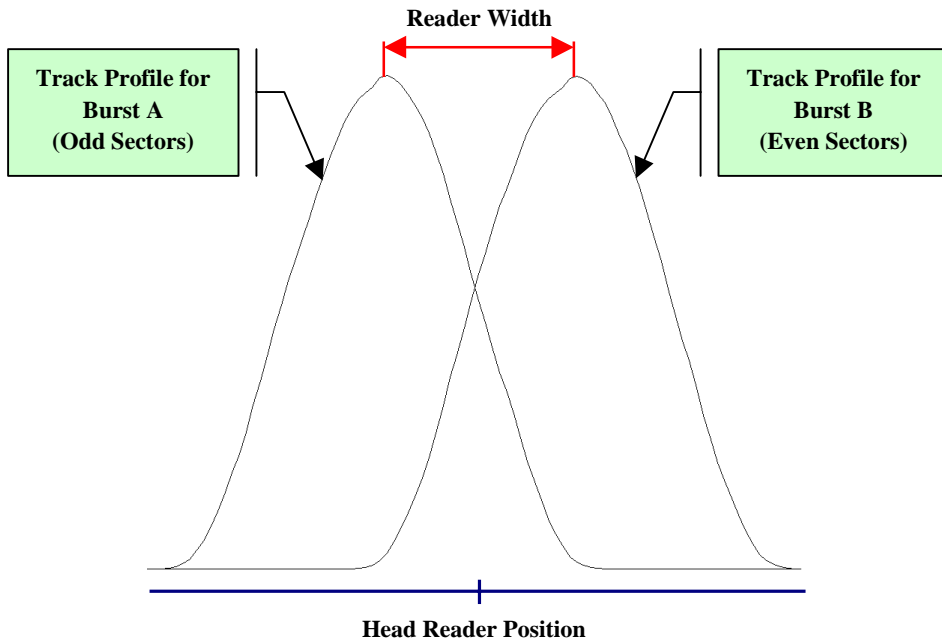

Figure 15: Signal Profile for PES Acquisition from Data
1. The system writes two tracks (see Figure 15): one in odd sectors with the offset  $-RW/2$  from the read element position and another one in even sectors with the offset  $+RW/2$  from the read element position (where RW is the Reader Width).